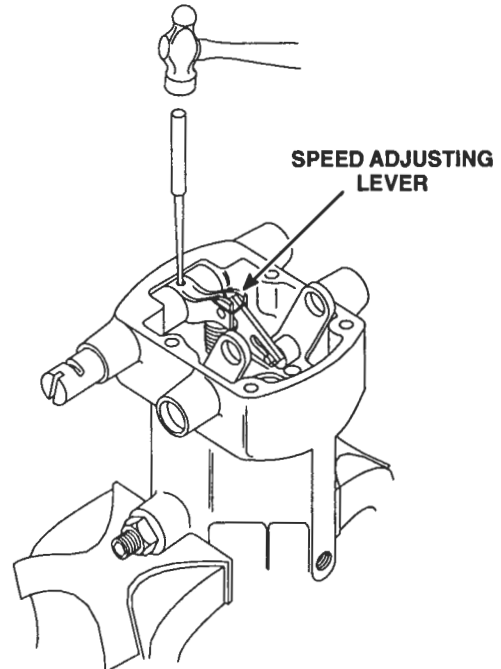

Figure 9. Removing Speed Adjusting Lever Roll Pin
4. Clamp the governor housing and base assembly in a bench vise equipped with soft jaws (Figure 9.)